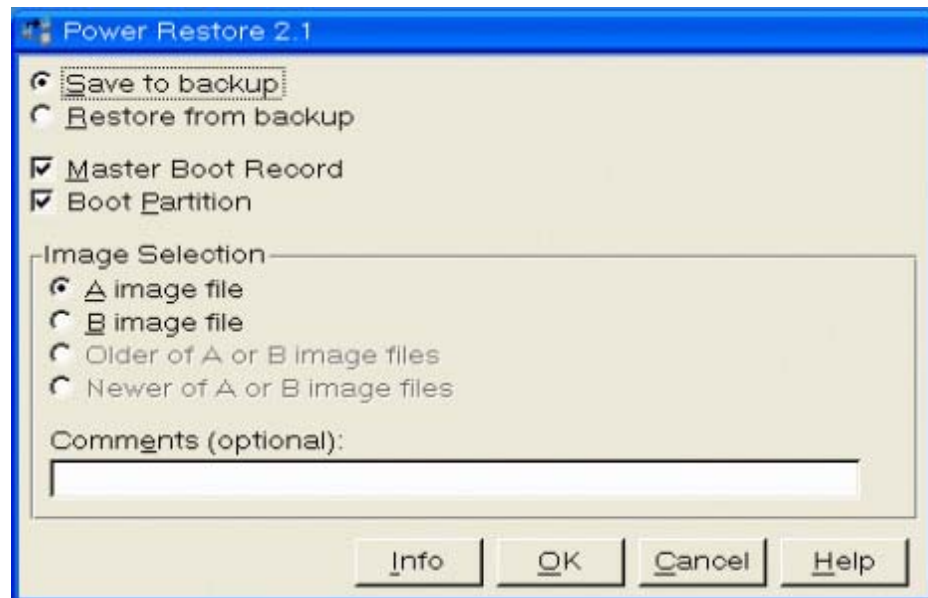

Figure 93. Power Restore GUI-based user interface
- GUI-based interface - Use this interface if the system has a video card capable of a 640 x 480 resolution, 256-color graphics mode. The interface looks like Figure 93: